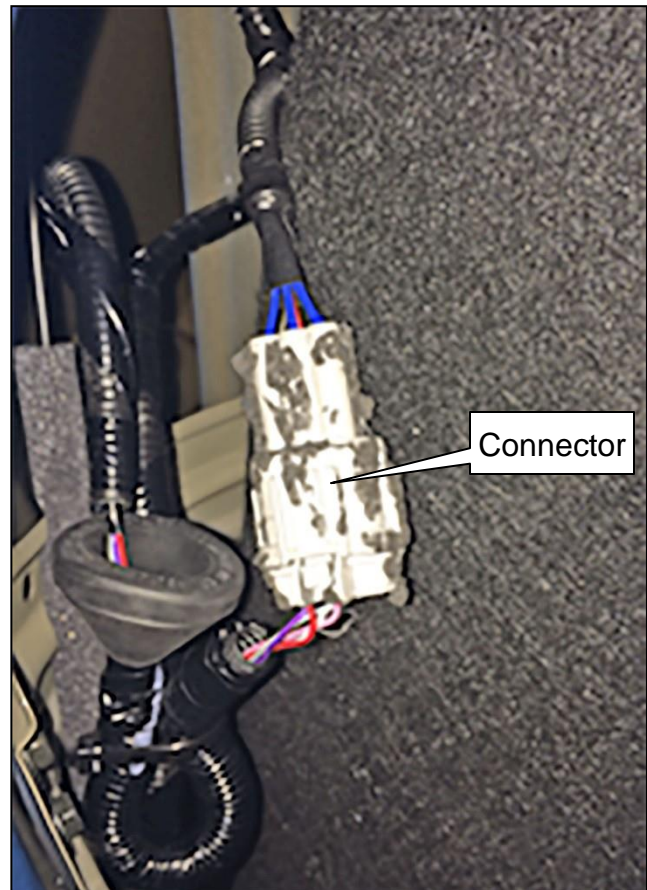

Figure 13
18. Using a suitable cutting tool, cut the “wire tie”, and then peel off the foam from the inside connector (Figure 13).
NOTE: Figure 13 shows the inside connector with foam and “wire tie” removed.